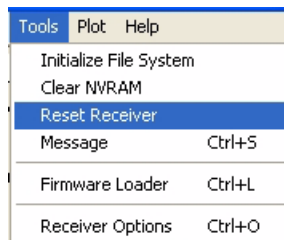

Figure 6-1. Tools->Reset receiver
- Reset the receiver using TriVU: *Tools* ▶ *Reset Receiver* (Figure 6-1):